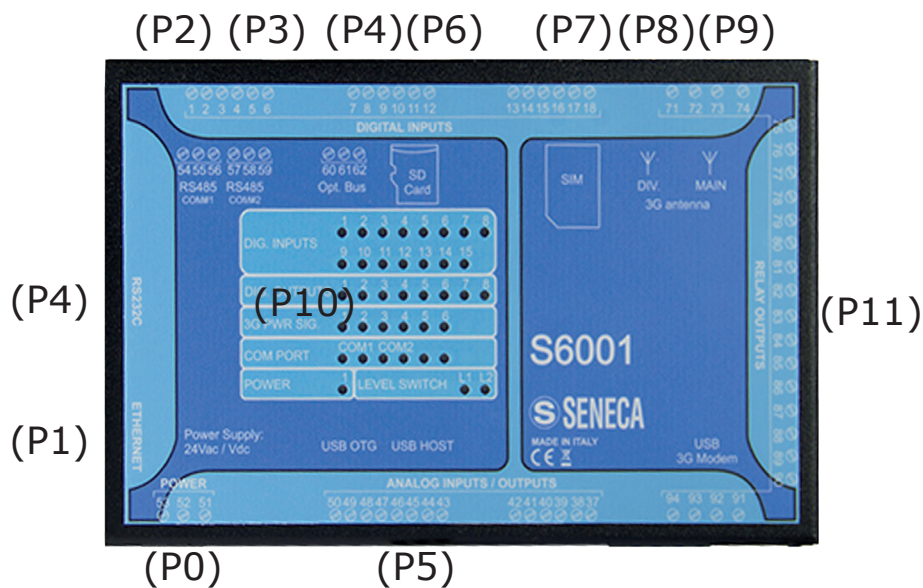

Fig. 2 RTU
The RTU (Fig. 2 on page 12) is equipped with:
- supply (P11 - Fig. 2 on page 12),
- inputs/outputs (P2 - Fig. 2 on page 12),
- communication ports (P2, P3, P4 - Fig. 2 on page 12),
- signalling LEDs (P10 - Fig. 2 on page 12),
Port (P6 - Fig. 2 on page 12) is not used by the system.